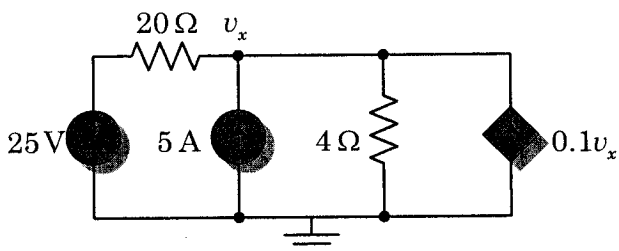

Figure Q5(a)
- a) Use the principle of superposition to find v_x in the circuit in Figure Q5(a). [10 Marks]
- b) For the AC circuit in Figure Q5(b) use mesh analysis to determine i_o . [10 Marks]